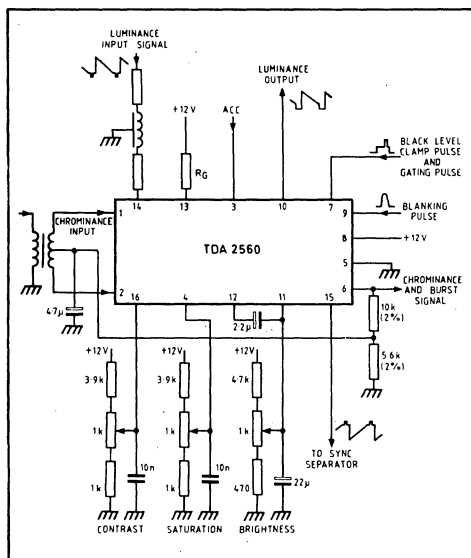

Fig. 5 Application and test circuit
1. The gain of the luminance amplifier can be adjusted, by setting the gain of the contrast control circuit with selection of the discrete resistor R_G (see Fig. 5). This circuit configuration has been chosen to reduce the spread of the gain to a minimum (main cause of spread is the spread of the ratio of the delay line matching resistors and the resistor R_G). At $R_G = 2.7k\Omega$ the output voltage at nominal contrast (maximum -3dB) is 3V black-to-white for an input current 0.2mA black-to-white.